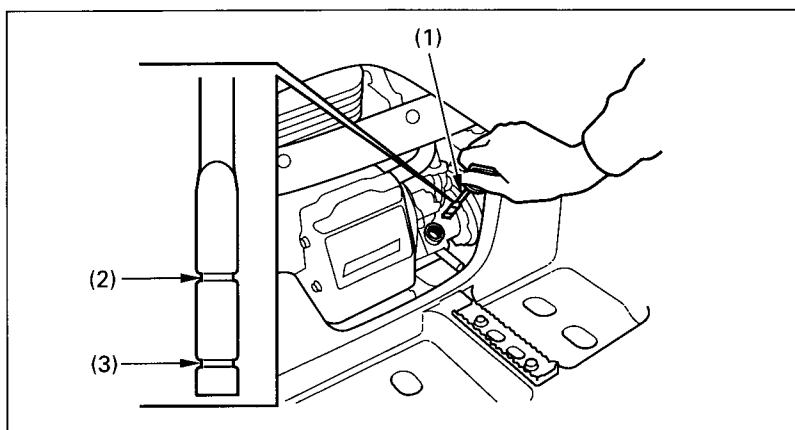

Fig. 4-10 (1) Oil filler cap/dipstick
4. After a few minutes, remove the oil filler cap/dipstick (1) (Fig. 4-10) from the rear crankcase cover and wipe it clean.
5. Insert the dipstick without screwing it in, then remove the dipstick and check the oil level. The oil level should be between the upper level mark (2) and the lower level mark (3) on the dipstick.
1. With the FOURTRAX on level ground, remove the oil filler cap/dipstick from the rear crankcase cover (Fig. 4-10).